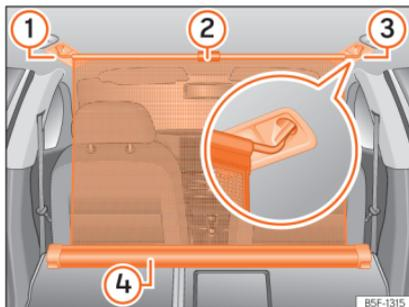

Fig. 141 In the luggage compartment: net partition hooked in place with the rear seat backs folded down.
- Pull up handle » **Fig. 141 ②** to remove the net from the casing » **Fig. 141 ④**.
- Hook in the net partition on the right or left side » **Fig. 141 ③** [magnified image].
- Hook in the net partition into the housing on the other side » **Fig. 141 ①** by pulling the rod.
The net partition is properly assembled when the T-shaped ends are firmly secured in the corresponding housings » **Fig. 141 ③** and **①**.
- Roll up the net into the casing » **Fig. 141 ④** lowering it with your hand.